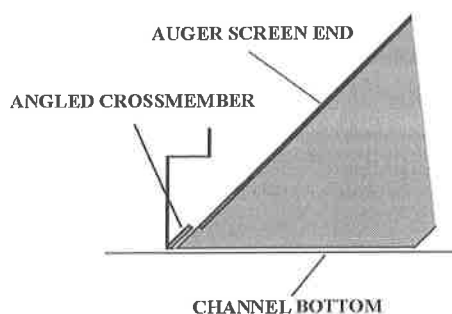

FIGURE 2-4. SCREEN END UNDER CROSSMEMBER
- H. Lift the Inclined Auger high enough to clear the auger support frame. Move the Inclined Auger into position to lower into the frame. Lower the auger into the frame at an angle greater than 45° and move the auger screen segment forward until the screen end is positioned under the angled frame crossmember. The crossmember will become a pivot point. Refer to Figure 2-4.